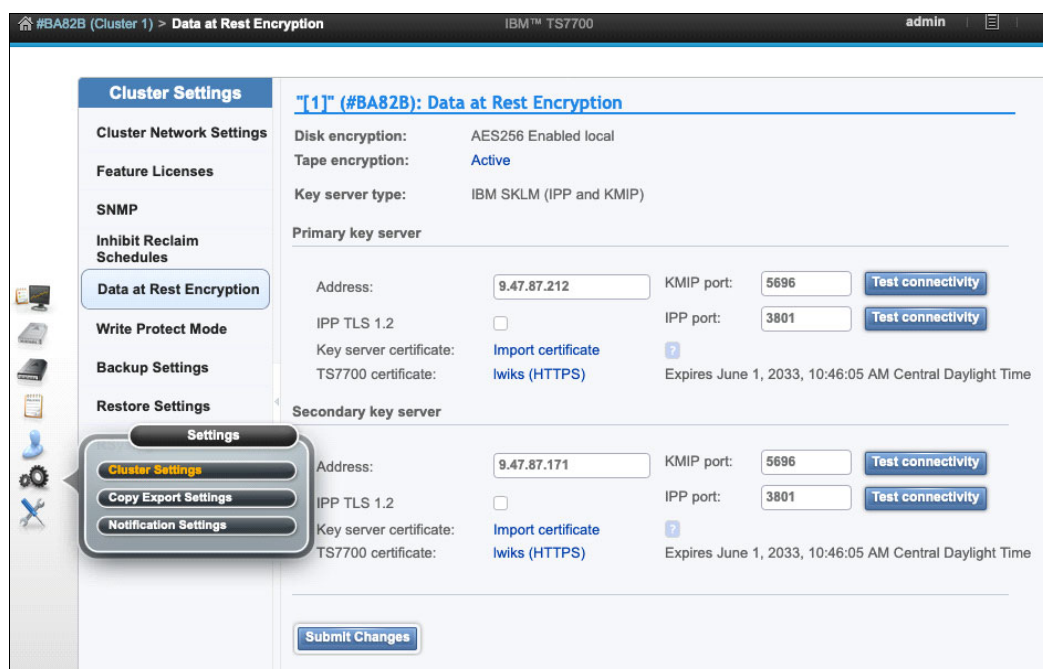

Figure J-4 Data at Rest Encryption window (KMIP and IPP to be configured)
- ▶ Figure J-2 shows a configuration in which the TS7700 disk cache is not externally key managed. If it is externally key managed, more options might be visible on this page, as shown in Figure J-4 on page 1033. Any displayed KMIP options are not applicable to physical tape encryption. Only IPP options apply to physical tape encryption.
Physical tape encryption also uses IPP. Therefore, settings might exist for KMIP and IPP, based on your hardware configuration (see Figure J-4).
It is a best practice to have two configured EKMs, which are replicas of each other for redundancy. The TS7700 must know the IP addresses or DNS style names of the target EKMs. This configuration can be done by using the Data at Rest Encryption page by selecting **Settings** → **Cluster Settings** (see Figure J-4 on page 1033).